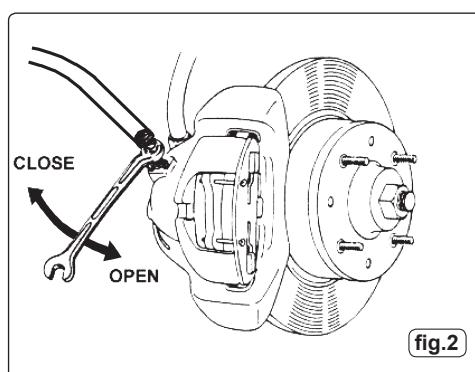

fig.2
- 3.2.4. Starting with the wheel furthest away from the brake fluid reservoir, connect one end of a tube from a bleed bottle to the brake nipple and, using a brake spanner, open the nipple approximately ¼ turn (fig.2), brake fluid will flow through the clear pipe into the bottle, when there are no visible bubbles in the fluid, tighten the bleed nipple and remove the pipe, taking care not to spill any brake fluid.